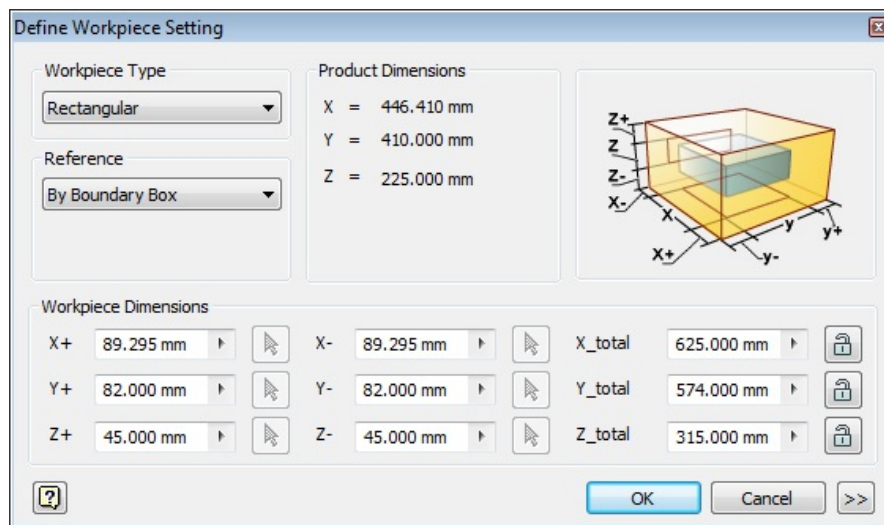

Figure 19-71 The Define Workpiece Setting dialog box
- d. Specify process settings and create workpiece, refer to Figures 19-71 and 19-73.
1. Choose the **Define Workpiece Setting** tool from the **Parting Design** panel in the **Core/Cavity** tab of the **Ribbon**; the **Define Workpiece Setting** dialog box is displayed, as shown in Figure 19-71.